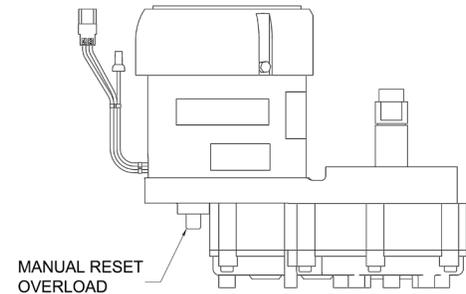

Figure 10. Motor Reset
7. Check white upper bearings on auger assembly (Fig. 10). If bearings are less than 1/16" thick, replace.
NOTE: Gear motor and related components can be checked from pin connector (Fig. 10).